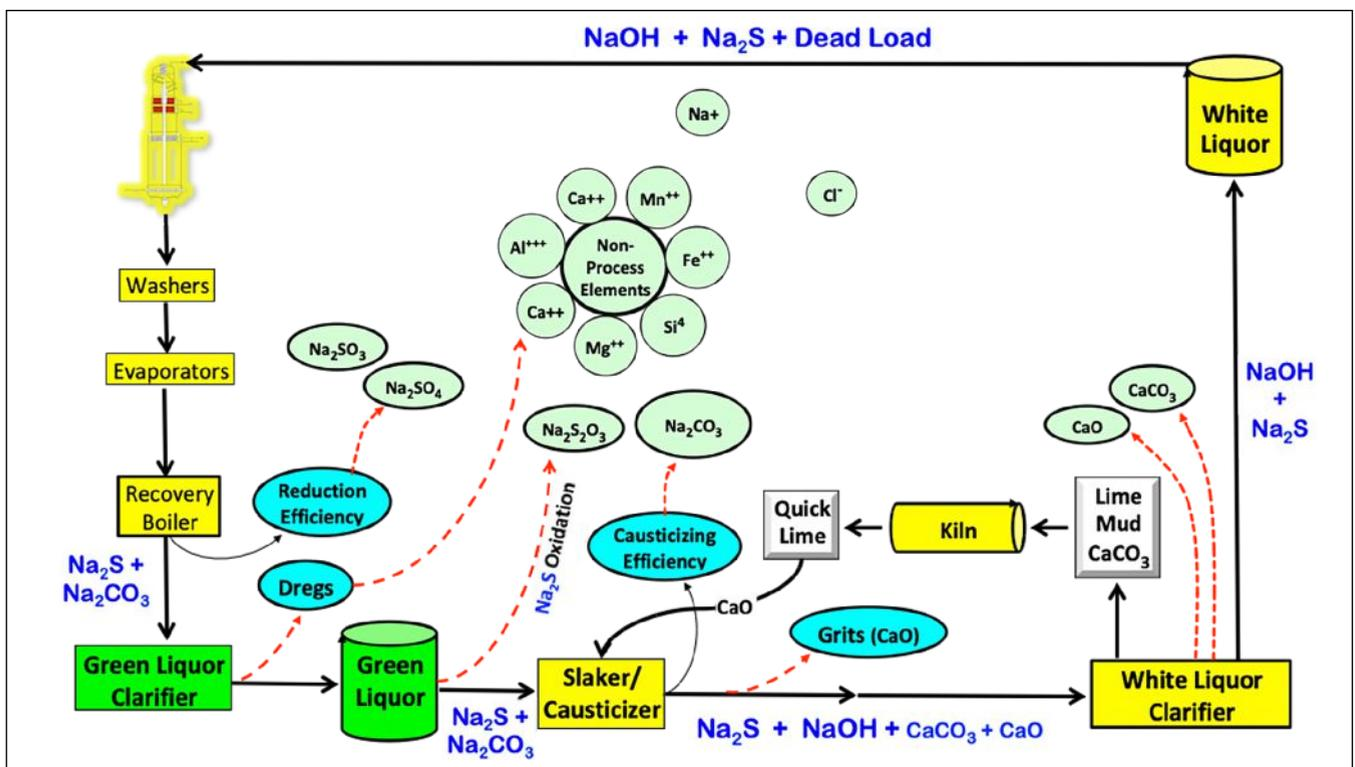

Figure 2. Sources of deadload in the kraft recovery cycle
with bagginess [2] or lateral stability [1] on equipment called Roll Testing Facility (RTF) (Figure 1). This was done at high resolution (2.5 centimetres) using a tension beam equipped with load cells (Figure 2). This facility was equipped with two pairs of laser beam sensors to measure web lateral stability and a Honeywell-Measurex scanner to measure basis weight, moisture and thickness (Figure 1). These measurements, combined with those made in commercial printing plants, were used to identify the underlying paper properties and paper machine operating factors that contribute to bagginess [2] and lateral instability [1]. Based on this understanding, changes were made to the operation of the paper machines which leveled the CD tension profile and corrected these problems. This was verified by means of measurements on the RTF and observations in the commercial pressrooms.
**Figure 2: The tension beam installed on the lathe during its fabrication (left), inside view of the 50 load cells (centre) and the beam in operation with paper on it (right) [1].**